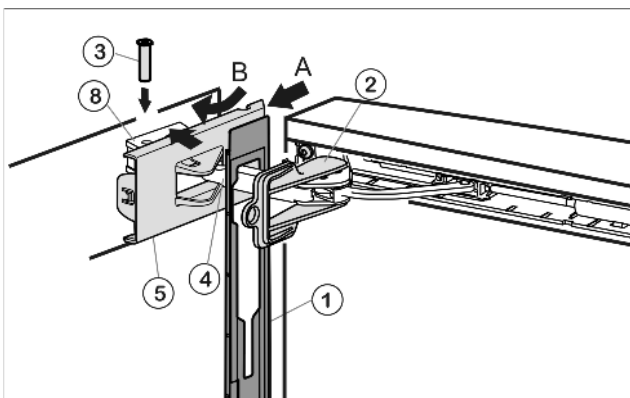

Fig. 59
- ▶ Hook panel Fig. 59 (1) into the damper bracket Fig. 59 (4) such that the detent hooks are pointing inwards and the front side is facing the appliance.
- ▶ Push on cover Fig. 59 (5) from the outside (A) and pivot over the bearing part Fig. 59 (8) (B).
- ▶ Place cover Fig. 59 (5) on top and allow to snap into place until the first notch.
- ▶ Pull damper bracket Fig. 59 (4) towards bearing part and insert bolt Fig. 59 (3) from above such that the square head is resting in the recess.
- ▶ Now snap cover Fig. 59 (5) completely into place on the bearing part Fig. 59 (8).
- ▶ Remove locking device Fig. 59 (2) by twisting it.
- ▶ Snap panel Fig. 59 (1) into place on the door.